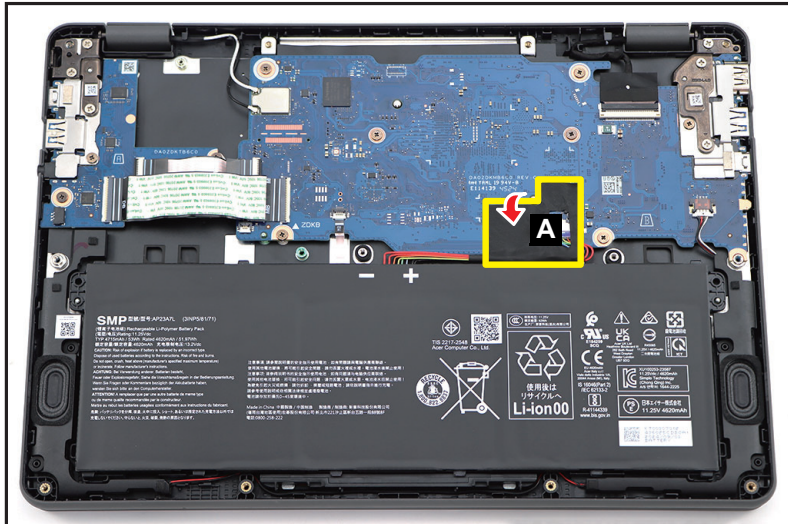

Figure 3-6. Battery Pack Removal
1. Detach the tape (A) securing the battery cable connection (Figure 3-6).